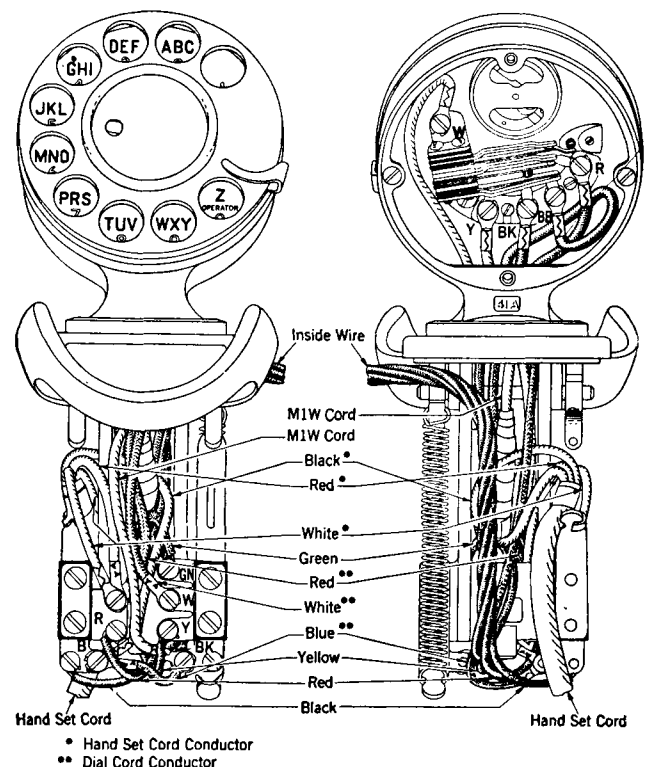

Fig. 2—G1 Type Hand Set Mounting (Dial)
2.02 The G1 Type Hand Set Mounting for dial stations is cored as shown on Fig. 2.